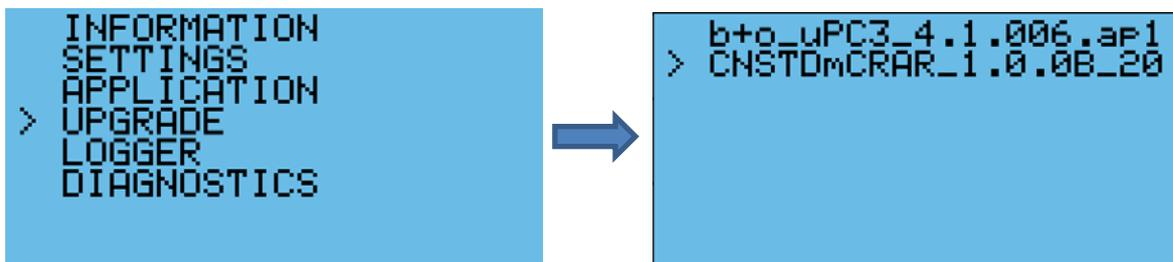

Figure 9.1.3
3. Disconnect the controller and the PC, then access to system menu through pGD1 terminal. Long press *Alarm + Enter* keys to enter the screen as shown in Figure 9.1.3. Select UPGRADE and press *Enter* key to choose the program to be updated;